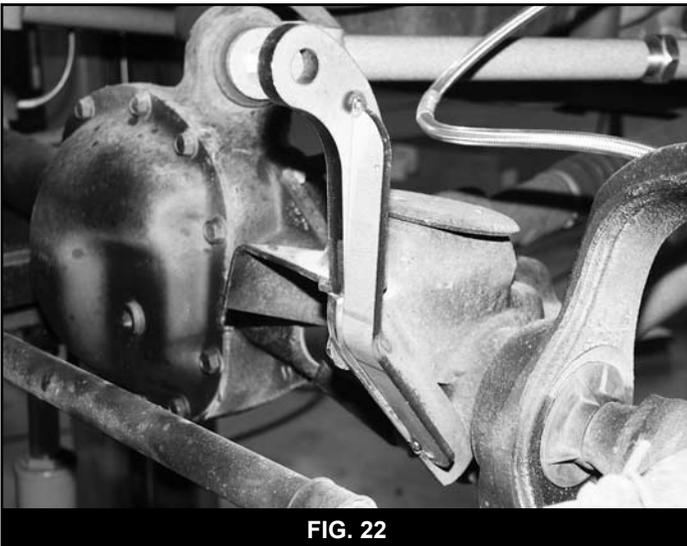

FIG. 22
58. With the links positioned correctly, locate the provided formed side gussets (01361). Position the gussets so that they are parallel to the front surface of the original link mount and flush to the outside surface of the new link mount (Fig 22). Once they are in the desired position, tack weld the gussets in place.